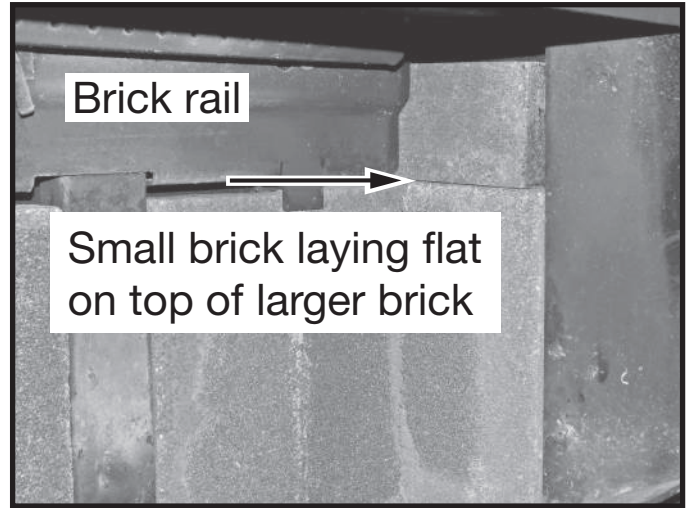

Figure 26: Small (B) brick on top of large full sized brick.
4. Place one of two small (B) bricks on top of the brick which is up against the side wall (Figure 26). Slide it towards the rear of the firebox so that it is partially behind the brick rail. Push it so that the small brick is seated flat on top of the larger brick. If the small brick is pushed too far, it will ride up onto another component located behind the brick rail, causing there to be a gap between the small and large brick.